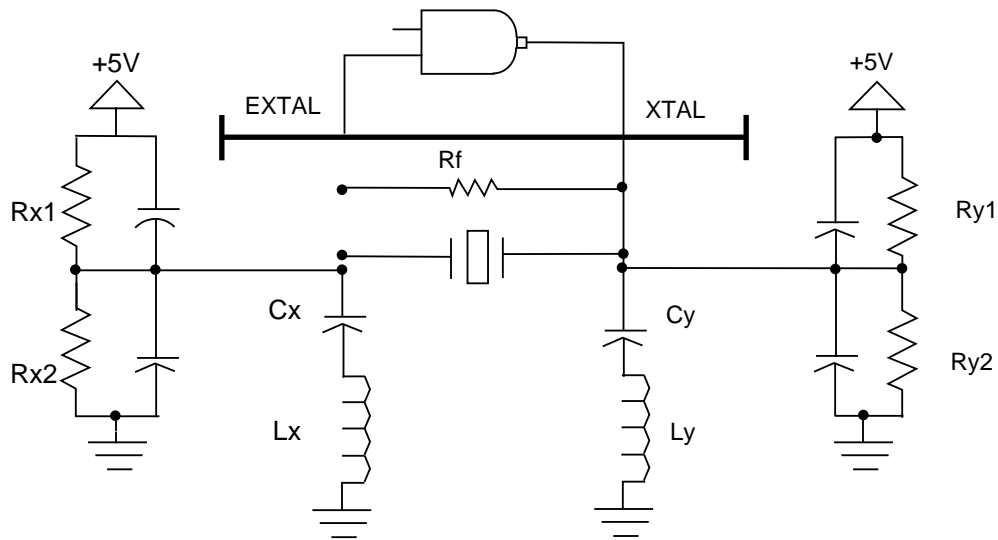

Figure 7 Modeling of PCB Effects on Oscillator Circuit
Increasing the capacitance from either leg of the crystal to ground through stray effects of board layout is not detrimental so long as it is taken into account when selecting the stabilizing capacitors C_x and C_y . Making the traces for C_x and C_y exceedingly long can add unwanted inductance. **Figure 7** is a model of the effects of the PCB on the oscillator circuit. Inductance is a function of total area enclosed by a current loop. Make certain that the power supply and return paths are as short as possible and, more importantly, that the loop area of this path is as small as possible. C_x , C_y , R_f and the crystal should be placed as close as possible to the microcontroller's oscillator pins.
- Long trace leads and uncontrolled capacitive coupling can cause problems. Referring to **Figure 7**, if L_1 or L_2 are any significant level, the net impedance of the C_x+L_x or C_y+L_y can be very small, effectively eliminating any feedback voltage. If there is any significant capacitance, the effective loading of the amplifier may be much more than calculated and the gain may not be sufficient. This is probably the number one problem encountered. Multilayer and hybrid PCBs can have substantial coupling to ground. See **5 Testing and Troubleshooting** for more on this problem.